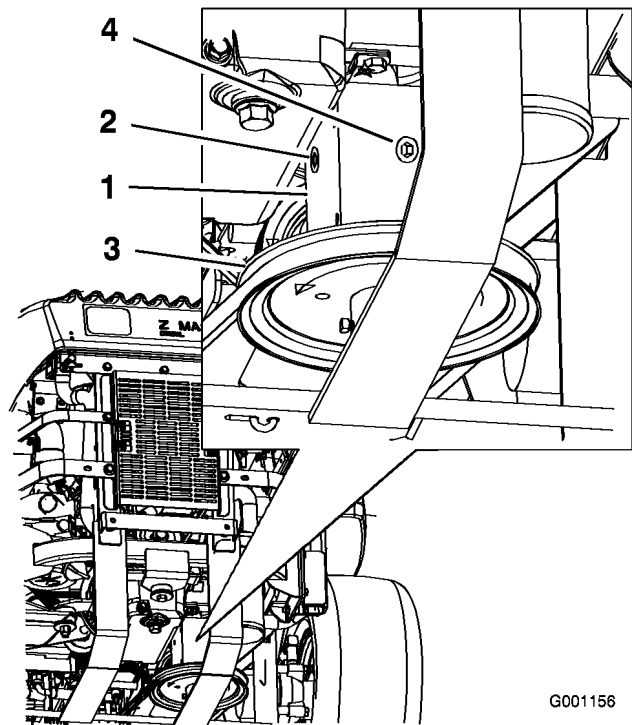

Figure 51
4. Remove the side or rear plug on the gear box. (Figure 51).